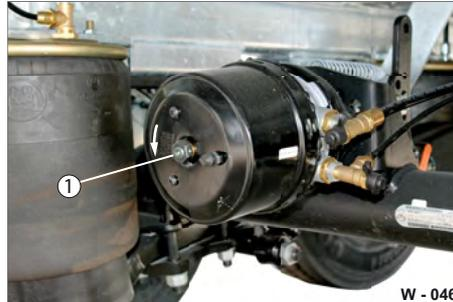

Fig. 51 Releasing parking brake
- ▶ Unscrew the release bolt (Fig. 51/1). The release bolt unscrews itself - the spring is tightened.
- ▶ Screw on the release bolt (Fig. 51/1). The release bolt screws itself in - the spring is relaxed.